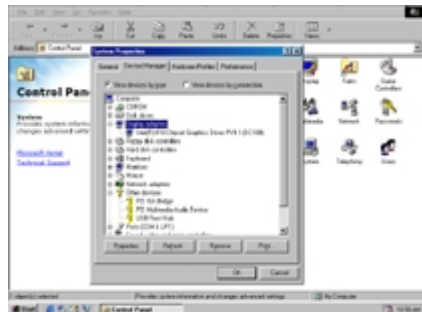

Figure 12
- Double click on the “System” icon then select and click “Device Manager” → Hit the “+” symbol to the left of the “Display adapters” section, the following screen will appear Figure 12.